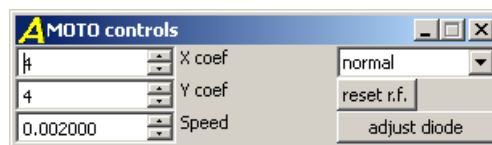

Figure 4.9.2 The **MOTO controls** panel to control the **Moto Scan** mode.
- Select the "**Moto Scan**" scan mode in the **Scan** window; the control panel will appear (see **Figure 4.9.2**).